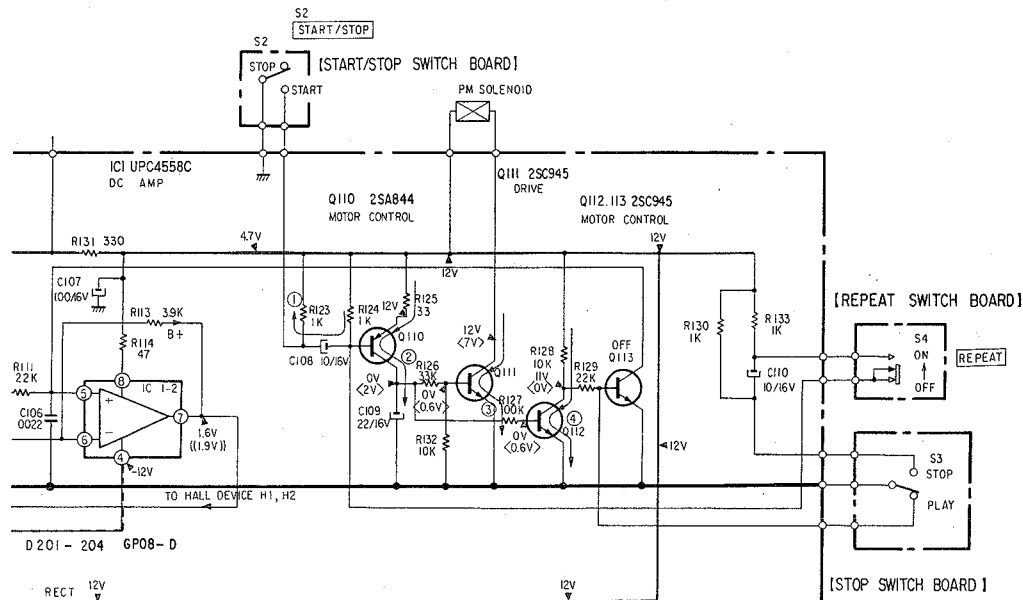

Fig. 1-15
1. START Operation (See Fig. 1-15)
- When the START/STOP switch (S2) is pushed, Q110, Q111 and Q112 conduct for a moment. This turns Q113 off and the solenoid (PM) on.
- A positive voltage is applied to the terminal ⑤ of IC1-2 by off-state of Q113 and the turntable starts rotating.
- The center gear is engaged with the pawl of drive gear by means of the solenoid (PM), and the drive gear starts rotating. (The tone-arm moves toward the lead-in groove of the record.)